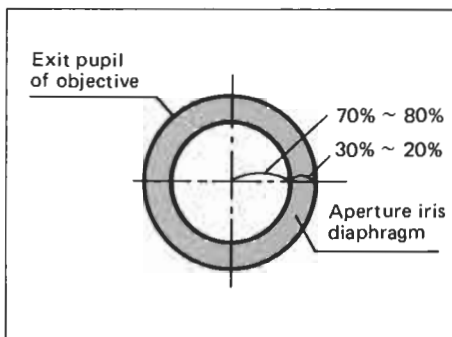

Fig. 16
- 2) Remove the eyepiece, and looking at the exit pupil of the objective through the empty eyepiece tube, adjust the opening of the diaphragm. Generally, it is preferable to stop down the aperture diaphragm to 70% to 80% of the objective N.A. (Fig. 16) If the specimen is lightly stained, or almost colorless and transparent, further reduce the diaphragm opening to increase contrast for better observation. Be careful, however, if the diaphragm is stopped down too much, the resolution will deteriorate.